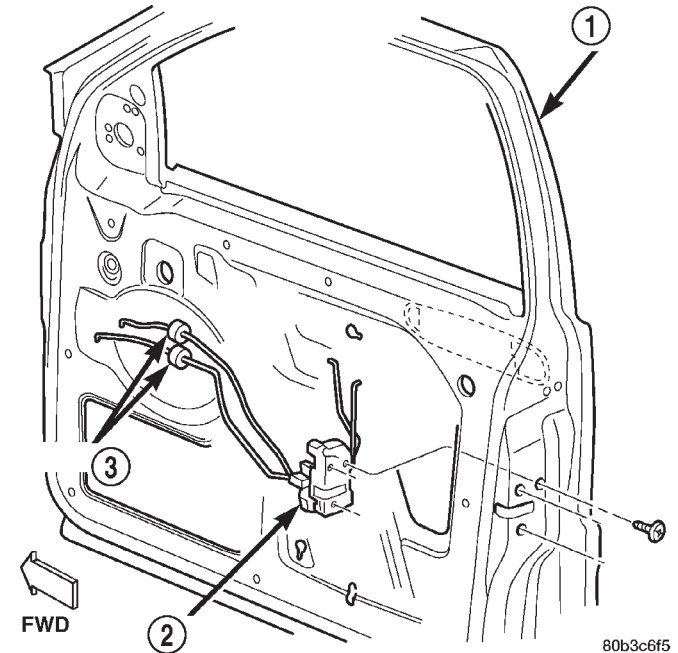

Fig. 10 Door Latch
- (1) Remove glass run channel, refer to (Refer to 23 - BODY/DOOR - FRONT/GLASS RUN CHANNEL - REMOVAL).
- (2) Remove screws attaching door latch to door (Fig. 10).
- (3) Disconnect all rods from door latch.
- (4) Disconnect wire harness connector, if equipped.
- (5) Separate door latch from door.
- (1) Position door latch at door.
- (2) Connect wire harness connector, if equipped.
- (3) Connect all rods to door latch.
- (4) Install screws attaching door latch to door. Tighten screws to 10 N·m (7 ft. lbs.) torque (Fig. 10).
- (5) Install glass run channel, refer to (Refer to 23 - BODY/DOOR - FRONT/GLASS RUN CHANNEL - INSTALLATION).